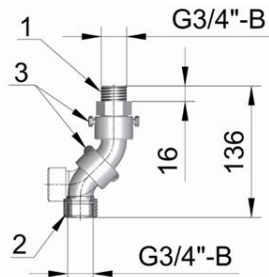

Fig.2 OTV Directional Discharge Device
2.1.If required, the modules with piping "Buran-15TRV4", "Buran-15TRV6", "Buran-15TRVTN4" and "Buran-15TRVTN6" can be supplied with an additional OTV directional discharge device as shown in Fig.2 for installation of the discharge sprayers/nozzles at various angle to a vertical axe.